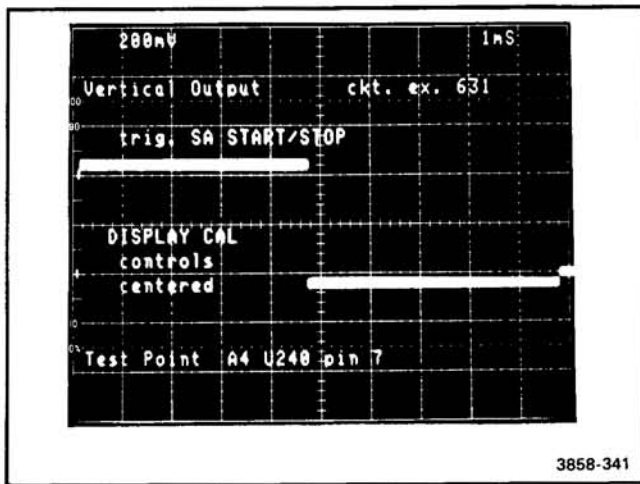

Figure 3-21. Waveform for Vertical Output test.
37) Vertical Output (631). If this test fails, place the Display Board on an extender and run circuit exercise 631. Use an oscilloscope to troubleshoot the Vertical Output. Waveform Figure 3-21 is a typical output of this test. The SA Start/Stop line provides a stable oscilloscope trigger while using this test for troubleshooting.